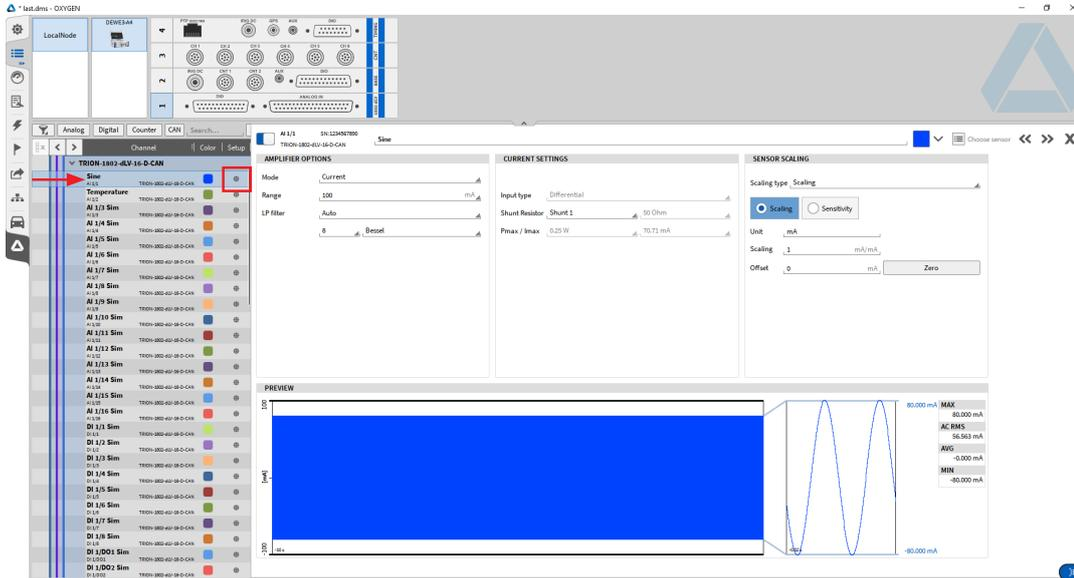

Fig. 22: Changing channel settings
2. Alternatively, the channel settings will also open by clicking on the gear button (see Fig. 22).